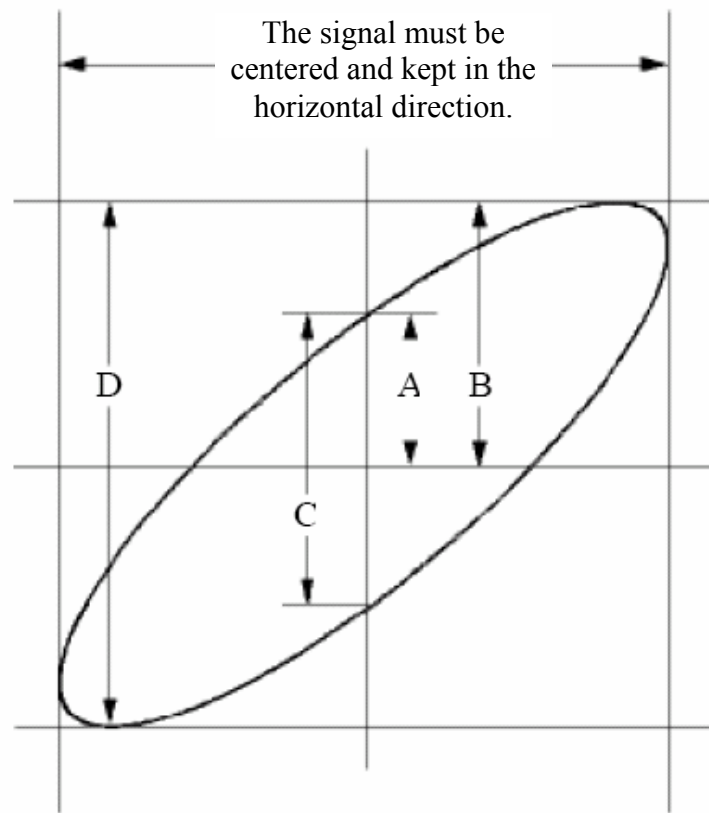

Fig. 113 Lissajous Graph
9. With the elliptical oscillogram method adopted, observe and calculate the phase difference (see Fig. 113).